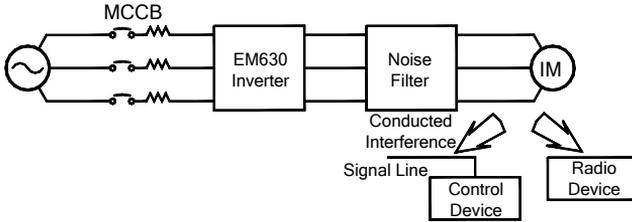

Figure 3–8 Noise Filter Installation on the Output Side
- Noise Filter Installation on the Output Side (As Shown in Figure 3–8).